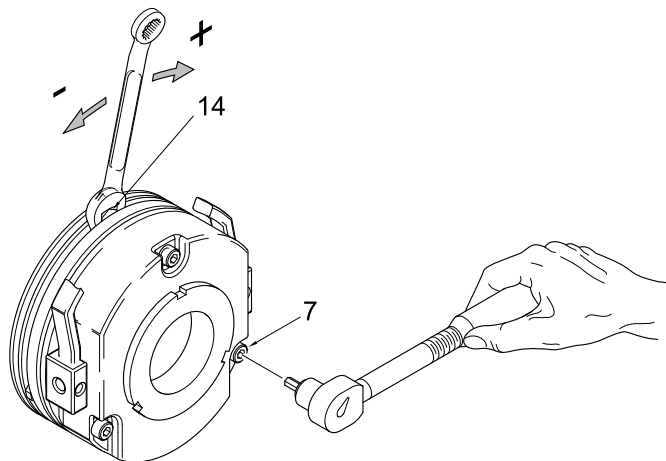

Figure 55 – Adjusting the Traverse Brake Air Gap
Where adjustment is required, loosen the assembly screws (7) by half a turn. Adjust the air gap by turning the adjustment tubes (14) until the required air gap is reached (see Figure 55).
- If the air gap is too large, screw the three adjustment tubes (14) into the stator. If the air gap is too small, screw the adjustment tubes out of the stator.